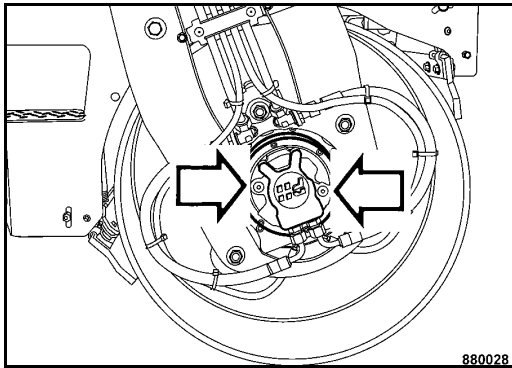

Fig. 104
- Remove two plugs (Fig. 104).